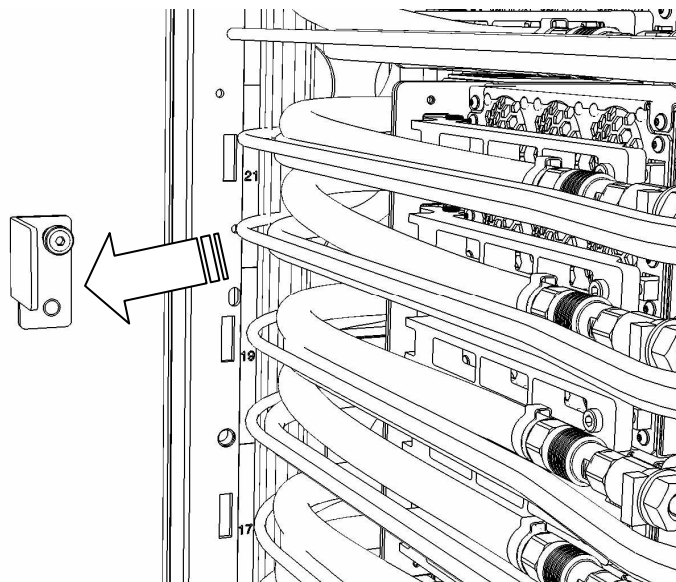

Figure 8 Remove Cover Latch Bracket
- b) Remove the cover latch bracket on the left vertical rack member using the 4mm hex driver 41V1059. (See Figure 8)